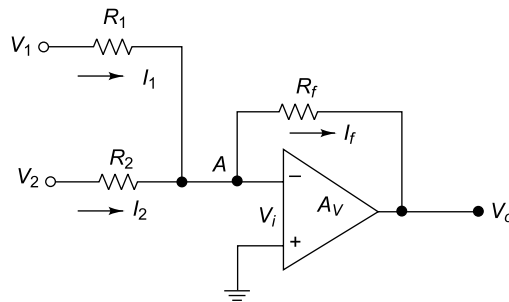

Fig. 5.100
6. When $R_1 = R_2 = R_f = R$, the output voltage of OP-AMP circuit as shown in Fig. 5.100 is